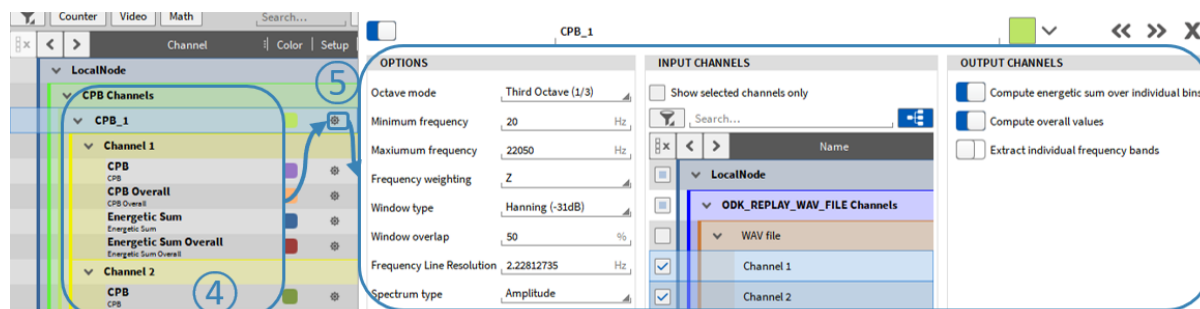

Fig. 7.129: CPB Analysis with extracted 100 Hz and 250 Hz bin
3. Press *Add* afterwards to create the calculation. The channels will be added to the Channel List (see ④ in Fig. 7.129)
4. The settings can be accessed afterwards by clicking on the Gear button of the channel (see ⑤ in Fig. 7.129)
The actual CPB spectrum (changing in time) is calculated per default. The channel name is *CPB* (see ④ in Fig. 7.129).
If *Compute energetic sum over individual bins* is enabled, the energetic sum for the spectrum is calculated. The channel name is *Energetic Sum* (see ④ in Fig. 7.129).
The calculation will be reset at recording start. The channel name will be *CPB Overall* and *Energetic Sum Overall* (see ④ in Fig. 7.129).